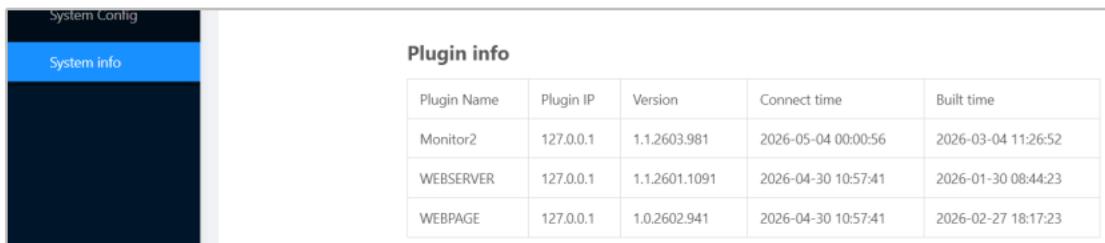

Figure 3-71
(2) Plugin Information: The "Plugin info" section displays the current plugin name, plugin IP, version, connection time, and build time, as shown in Figure 3-71.